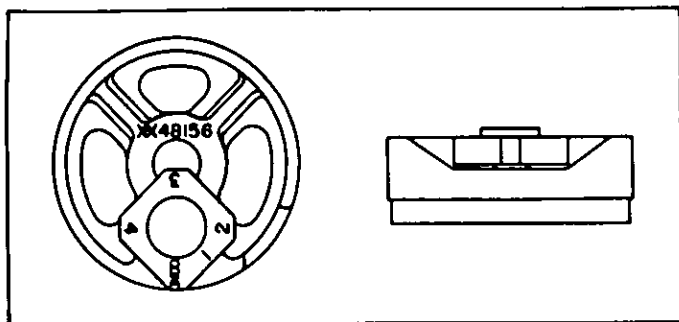

FIGURE 3 - RING SELECTOR GAGE, Pc.No. 48156
- a. Ring Selector Gage No. 48156, Pc. No. 517169 which is used to gage the large piston bushing. (See Figure 3)
- b. Use a chisel to cut off the peened head of the rivet (14).
- c. Remove and DISCARD the rivet (14) and seal (15).
- d. Place a NEW seal (15) in position on the vent protector (14). Then using a NEW 3/16" x 1/2" pop rivet (14) and the proper tool secure the seal (15) in place.
- (1) Wash all of the remaining metal parts in the cleaning solvent described in paragraph III.A.
- (2) The spring may be wire brushed to assist in the removal of rust and scale.
- (3) After the parts are cleaned they MUST BE blown completely dry with a low pressure (less than 30 psig) jet of clean, dry air.
- (4) Inspect the parts.
- (a) The spring (6) MUST BE replaced if it is rusted, pitted, or has taken a permanent set. The spring (6) Pc. No. 569160 has an approximate free height of 3-9/16".
- (5) IMPORTANT: The release valve portions large piston bushing MUST BE gaged with the ring selector gage No. 48156, Pc. No. 517169, (see Figure 3) to determine if an oversize piston ring is necessary. See Parts Catalog 3227-11, Sup. 7 for correct Pc. No. of repair rings. Apply the gage BUT DO NOT use pressure and observe the following: